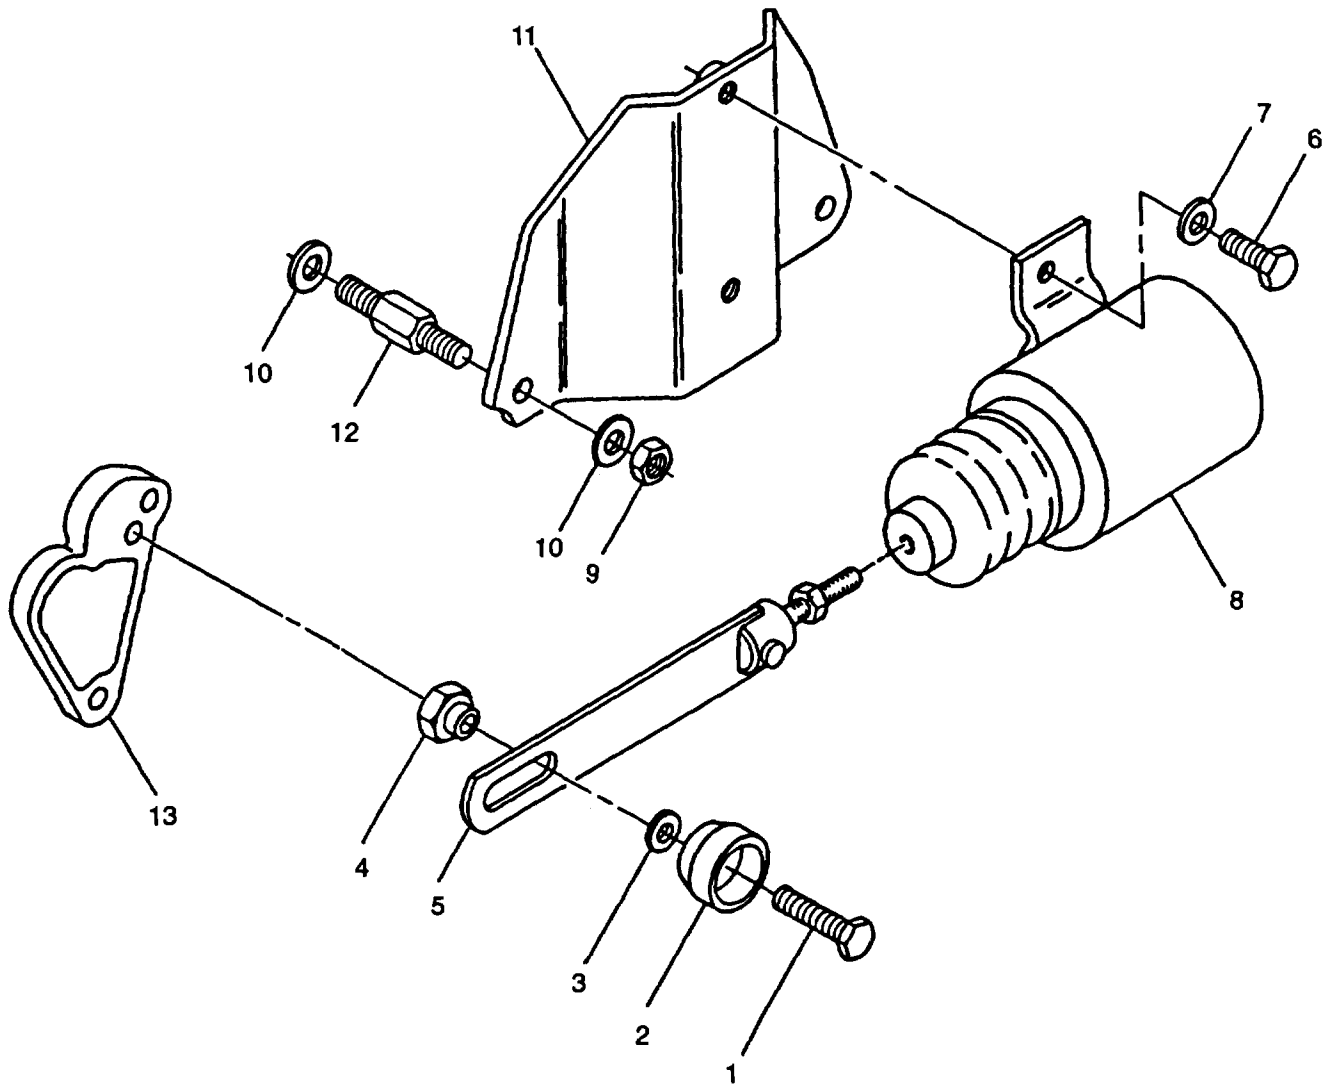

FIGURE 3-14. Fuel Solenoid Installation
- a. Tag and disconnect electrical leads from solenoid (8, FIGURE 3-14).
- b. Remove capscrew (1), knob (2), washer (3), and retaining nut (4) securing linkage (5) to lever (13).
- c. Remove two capscrews (6) and washers (7) securing solenoid (8) to bracket (11); remove solenoid (8) with linkage (5).
- d. Count number of threads exposed prior to unscrewing linkage (5). This will aid installation and adjustment.
- e. If damaged or if replacing solenoid, loosen locknut on linkage (5) and unscrew linkage from solenoid (8).
- f. If damaged, remove two nuts (9) and washers (10) securing bracket (11) to engine; remove bracket (11).
- g. If damaged, remove two studs (12) and washers (10) from engine block.
- a. If removed, install two studs (12, FIGURE 3-14) and washers (10) in engine block.
- b. If removed, position bracket (11) on studs (12) and secure with two nuts (9) and washers (10).
- c. If removed, screw linkage (5) into solenoid (8) leaving number of threads exposed as noted during removal. Tighten linkage locknut.
- d. Position solenoid (8) with linkage (5) on bracket (11) and secure with two capscrews (6) and washers (7).
- e. Connect linkage (5) to lever (13) using cap screw (1), knob (2), washer (3), and retaining nut (4).
- f. Connect electrical leads to solenoid (8) as tagged during removal. Remove tags.